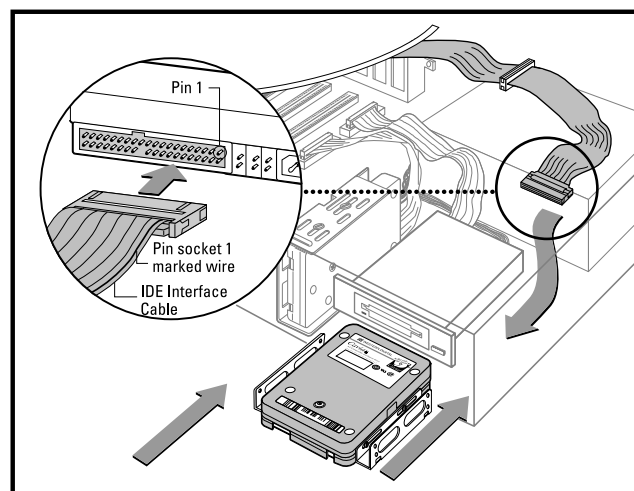

Figure 3. Attaching IDE Cable to the Hard Drive
2. Attach the end of the 40-pin interface cable to the 40-pin connector on the back of the Western Digital hard drive. Match pin socket 1 on the IDE cable (indicated by a color stripe on the cable) to pin 1 on the Western Digital hard drive. See Figure 3.
Dual Installations: Connect the two hard drives by using a three-connector IDE interface cable. A three-connector IDE interface cable is included in this package. Match the orientation of pin socket 1 on the 40-pin three-connector IDE cable to pin 1 on the drive connector. See Figure 3.